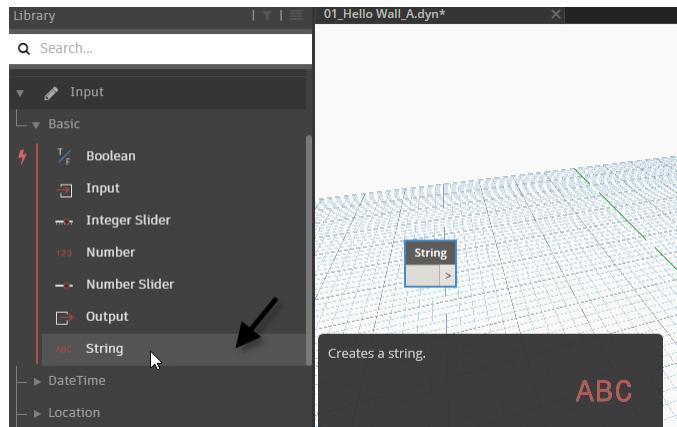

Figure 12
2. Click the **String** node to add it to the canvas (see Figure 12).